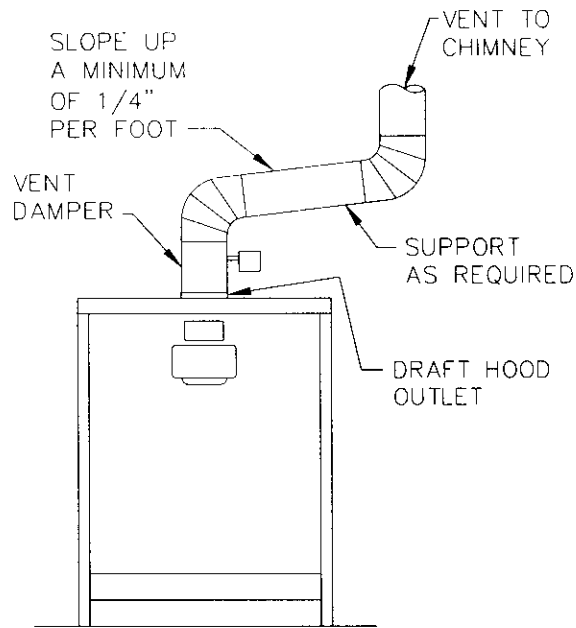
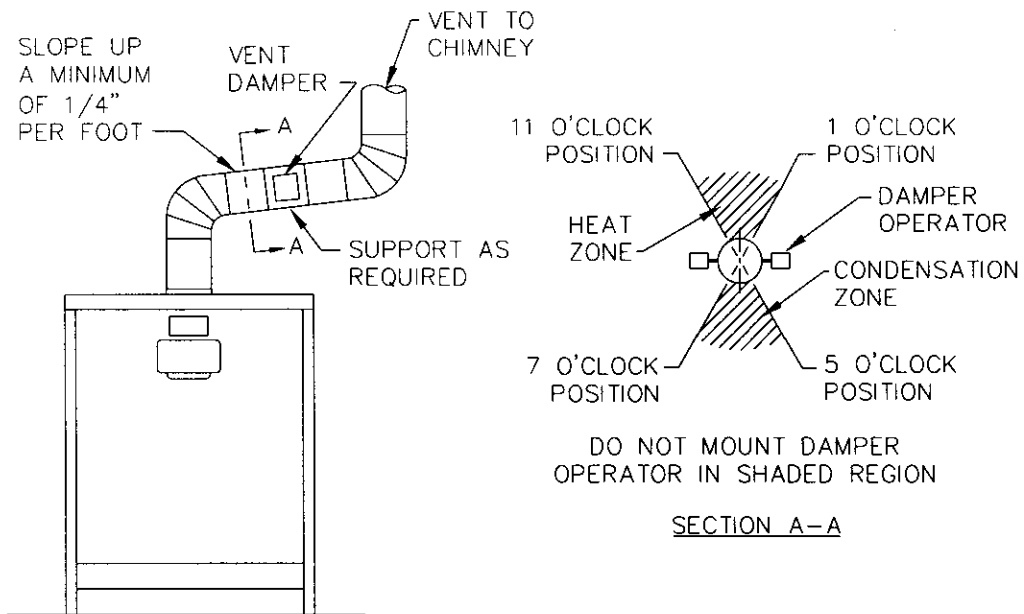

Figure 14: Venting with Vent Damper in Vertical Position
Figure 15: Venting with Vent Damper in Horizontal Position
- 3—The vent damper can be mounted directly onto the draft hood outlet collar, or in the vent piping close to the boiler. See figures 14 and 15. Be sure direction of flow arrow located on damper collar, is pointing away from draft hood collar and damper position indicator is visible after installation. For installation with damper mounted in the horizontal position, mount the damper as shown in figure 15 to avoid excessive heat and possible condensation drips on the damper operating control.